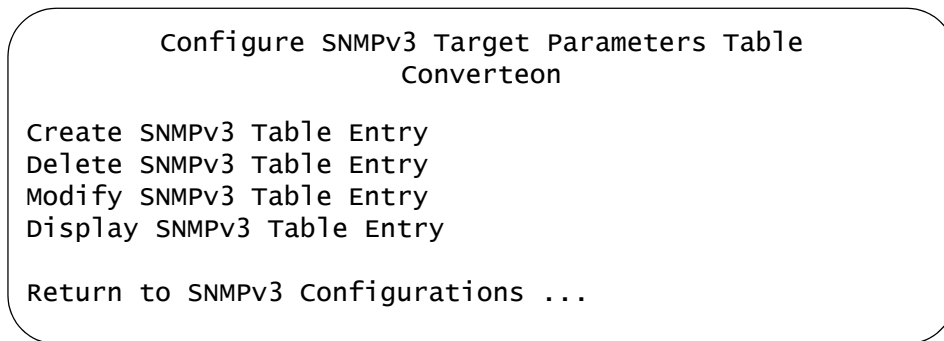

Figure 123. Configure SNMPv3 Target Parameters Table Menu
- From the Main Menu, select **Configuration -> System Configuration -> SNMPv3 Configurations -> Configure SNMPv3 Target Parameters Table**. The Configure SNMPv3 Target Parameters Table menu is shown in Figure 123.